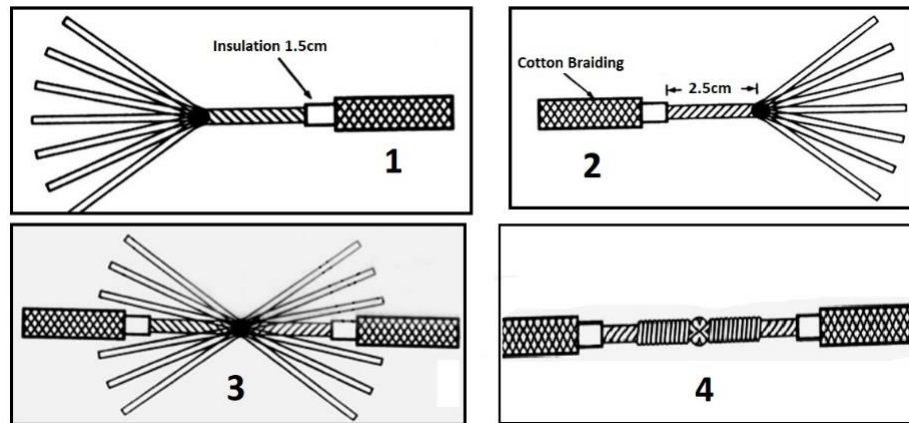

Fig.1.19: Married joint on single core 7/0.029" cable
15. A straight twist married joint on two core cable should be made as shown in fig.1.19